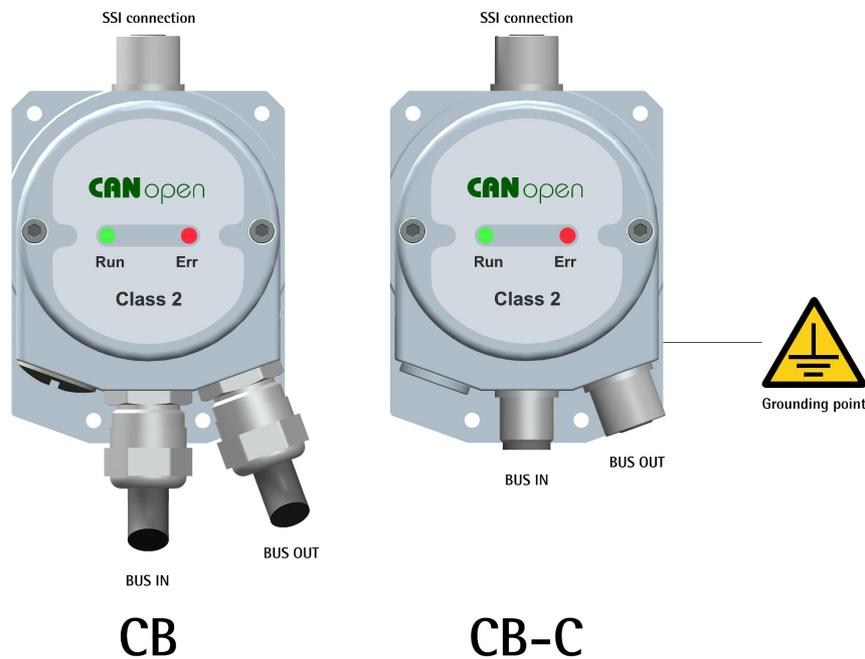
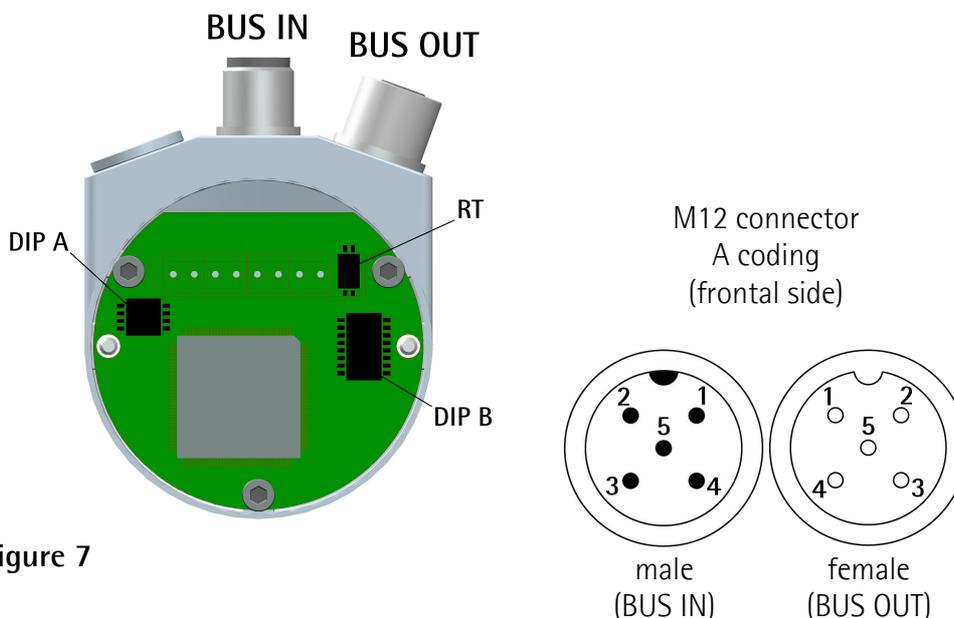

Figure 4
Figure 7
**4.2 SSI connection (Figure 4)**
**4.3 CANopen converter with PGs: CB version (Figure 4 and Figure 6)**
#### 4.4 CANopen converter with M12 connectors: CB-C version (Figure 4 and Figure 7)
#### 4.5 Ground connection (Figure 4)
Minimize noise by connecting the shield and/or the connector housing and/or the enclosure to ground. Make sure that ground is not affected by noise. The connection point to ground can be situated both on the device side and on user's side. The best solution to minimize the interference must be carried out by the user. You are advised to provide the ground connection as close as possible to the unit. We suggest using the ground point provided in the connection cap (see the Figure 4, use one TCEI M3 x 6 cylindrical head screw with two tooth lock washers).
4.8 Baud rate: DIP A (Figure 6 and Figure 7)
**4.9 Node number: DIP B (Figure 6 and Figure 7)**
**4.10 RT Bus termination (Figure 6 and Figure 7)**